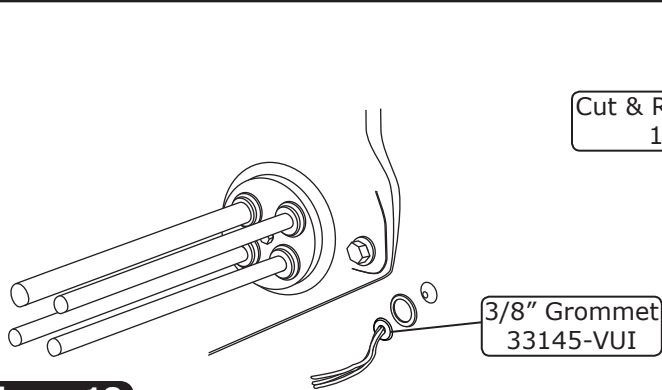

Figure 18
2. Route A/C wires (12-volt/grounds/binary switch/heater control valve) through 3/8" grommet as shown in Figure 18, below.